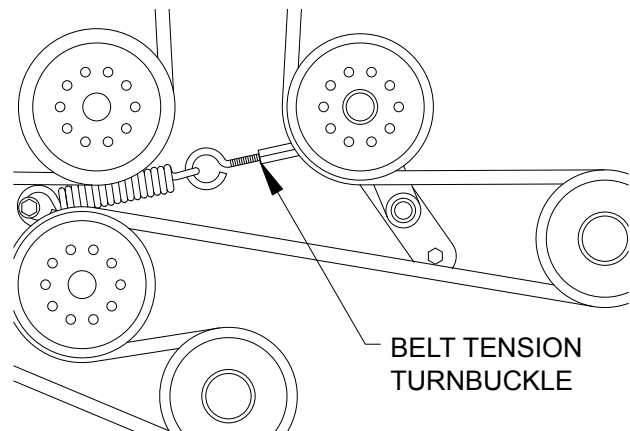

Fig. 3 - Turnbuckle Location
**Remove key from the ignition switch.** The deck drive belt, which may be accessed by removing the deck plate, (see fig.3) has